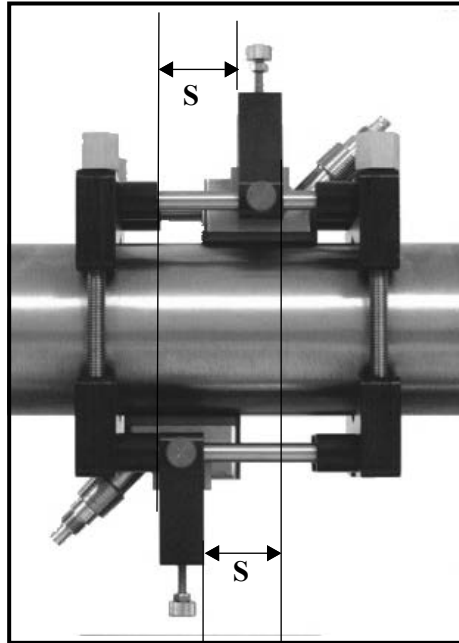

Figure 27: V4 Fixture, Top View
The overall spacing between yokes should be left edge to left edge, or right edge to right edge. *Figure 27* below shows typical positioning.
4. In a similar manner, install the second transducer as shown in *Figure 27* above.